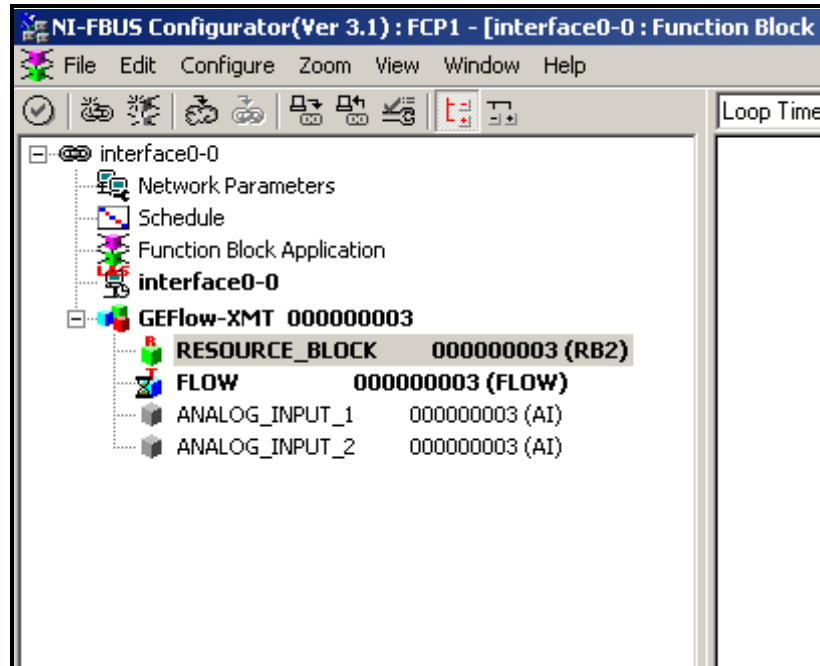

Figure 40: Configuration Utility Setup Example
Figure 40 shows the Configuration Utility with a flowmeter on the network (Panametrics Flow-XMT).
1. Double click on the AI block for which you wish to set the units (ANALOG_INPUT_1 or ANALOG_INPUT_2 in the tree under GEFLOW-XMT; see Figure 40 on page 130).
1. Double click on the FLOW transducer block (in the tree under GEFlow-XMT; see Figure 40 on page 130).